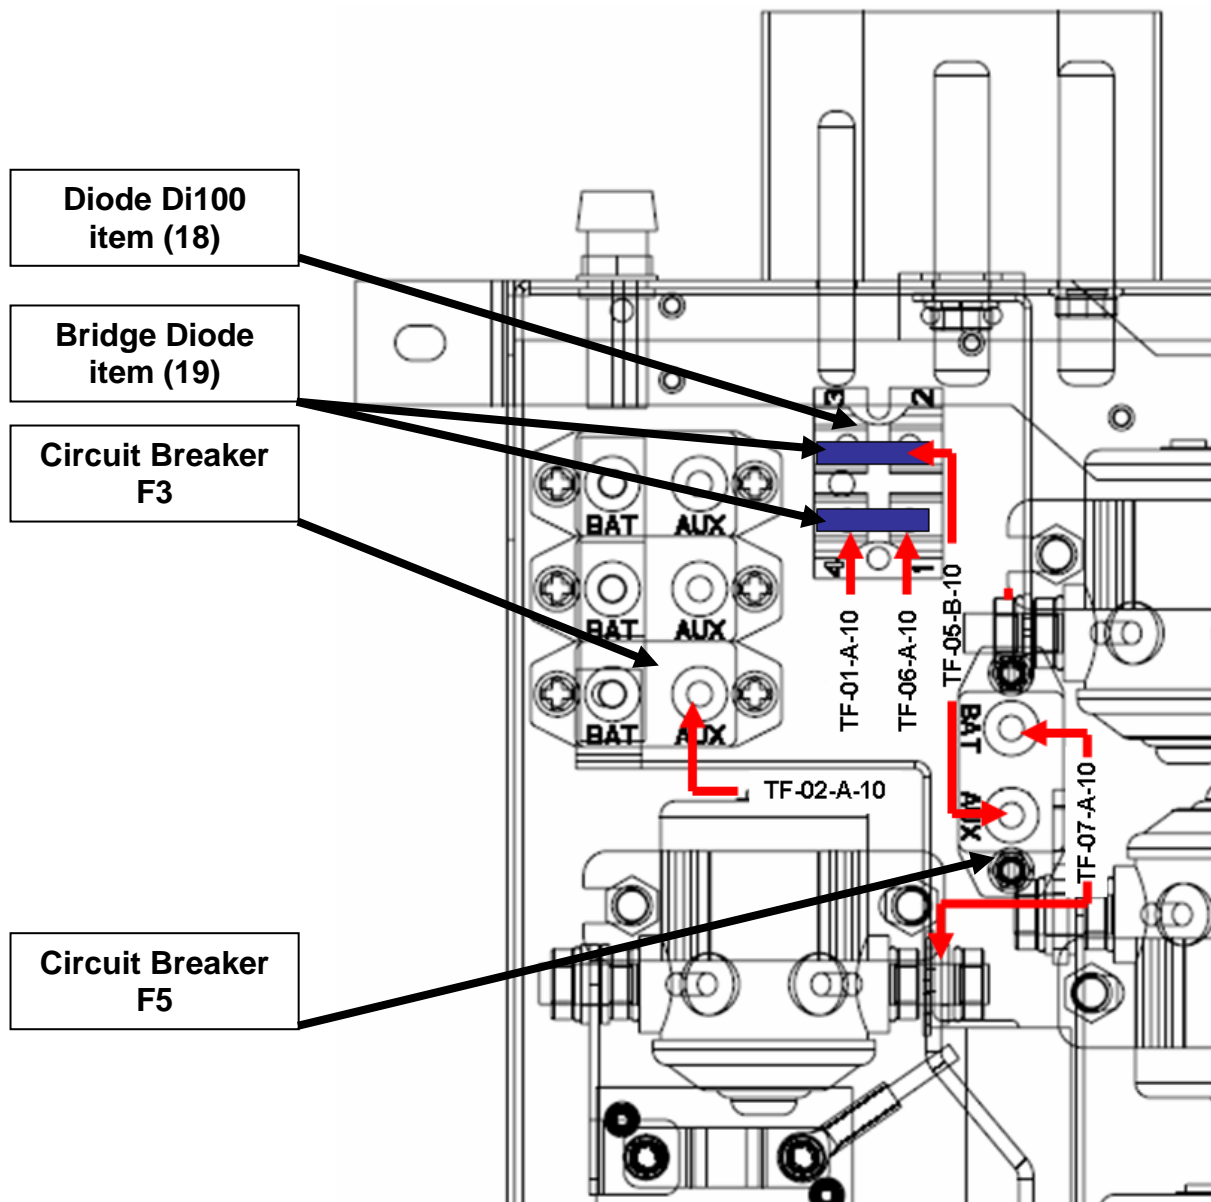

Figure 5 Power junction box after conversion of TAE 125-01 to TAE 125-02, modified
7. Modification of power junction box after conversion from TAE 125-01 to TAE 125-02 installation, Cessna model 172 R,S (see figure 5)
- Install new diode (18) beneath the external power plug.
- Fasten diode with two screws (8), two washers (9) and two nuts (10).
■ CAUTION: Washers (9) need to be positioned underneath nuts (10)!